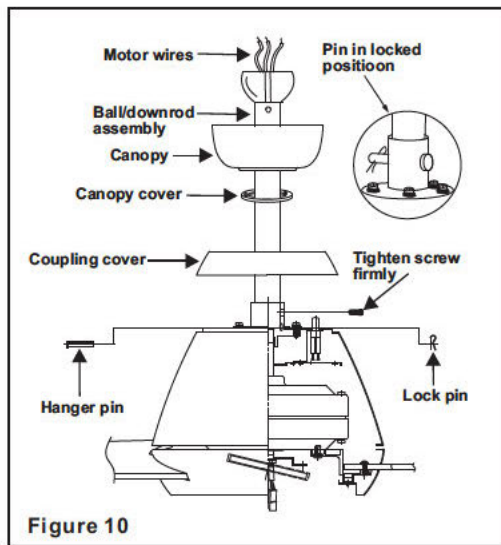

Figure 10
**Step 6.** Route wires exiting from the top of the fan motor through the coupling cover, canopy cover, canopy and then through the ball / downrod. (Fig. 10)
**Step 7.** Align the holes at the bottom of the downrod with the holes in the collar on top of the motor housing (Fig. 10). Carefully insert the hanger pin through the holes in the collar and downrod. Be careful not to jam the pin against the wiring inside the downrod. Insert the locking pin through the hole near the end of the hanger pin until it snaps into its locked position, as noted in the circle inset of Fig. 10.
**Step 8.** Tighten two set screws on top of the fan motor firmly. (Figure 10)